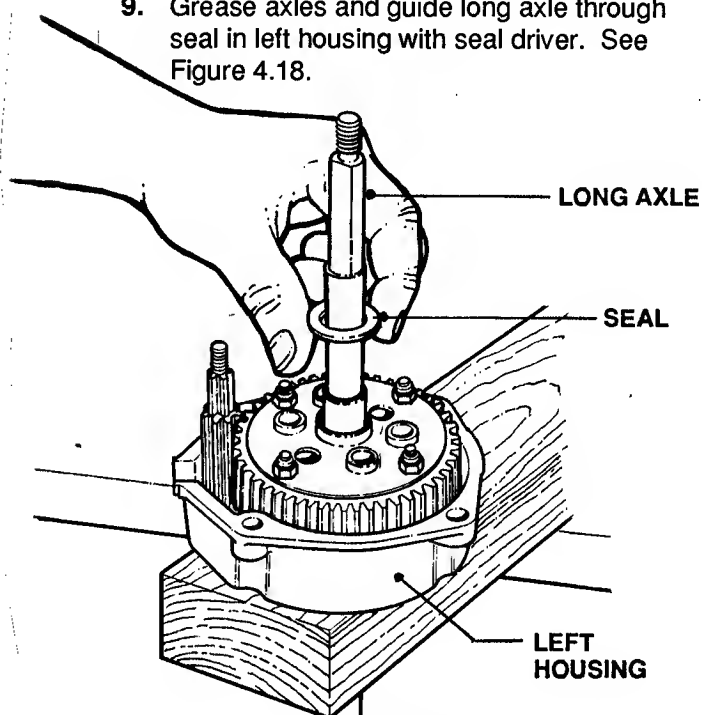

FIGURE 4.18
9. Grease axles and guide long axle through seal in left housing with seal driver. See Figure 4.18.